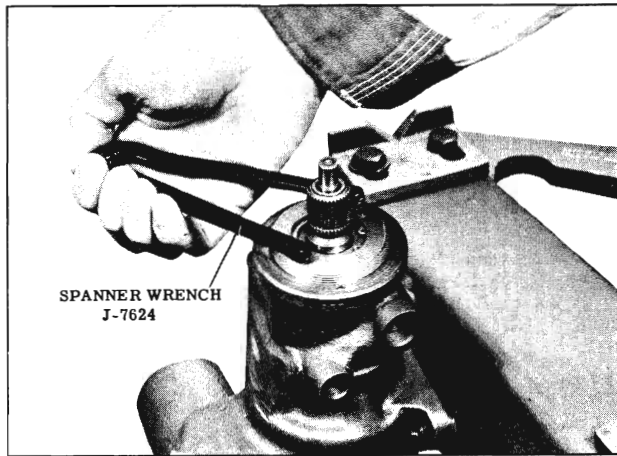

Fig. 4-46 Removing Adjuster Plug
- b. Remove adjuster plug assembly with Spanner Wrench J-7624. (Fig. 4-46) Remove and discard the plug "O" ring.